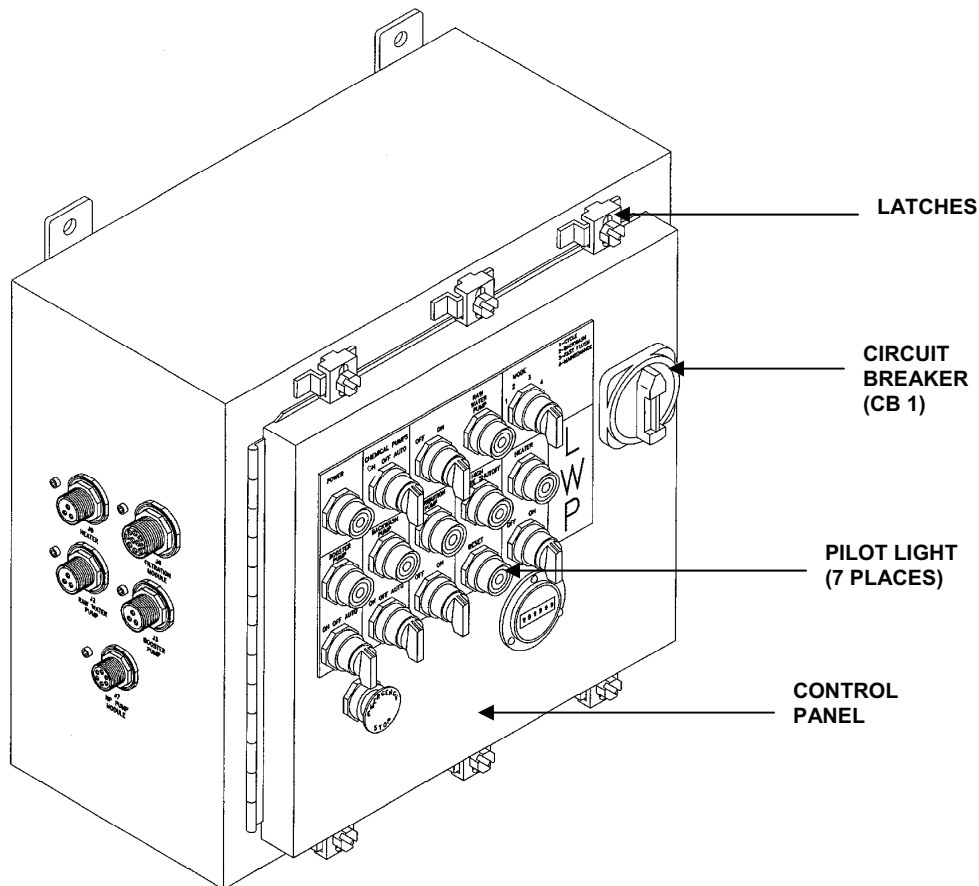

Figure 1. Control Module.
2. Test pilot light by pressing on the lens. The light should come on if the bulb is serviceable. See Figure 1.
2. Loosen and slide the eight (8) Latches off the control panel. See Figure 1.